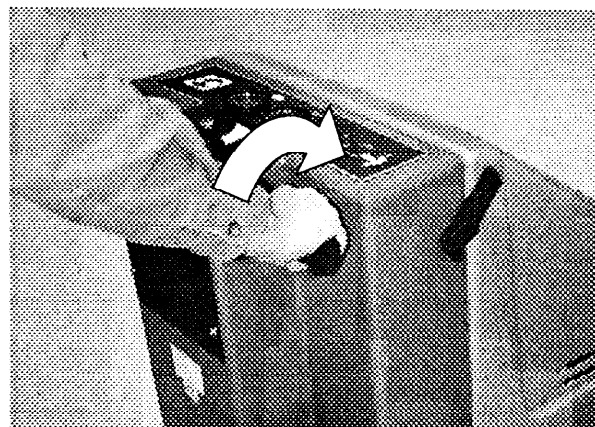

Fig. 6.
5. Twist control grips forward to activate the pad. (Fig. 6)